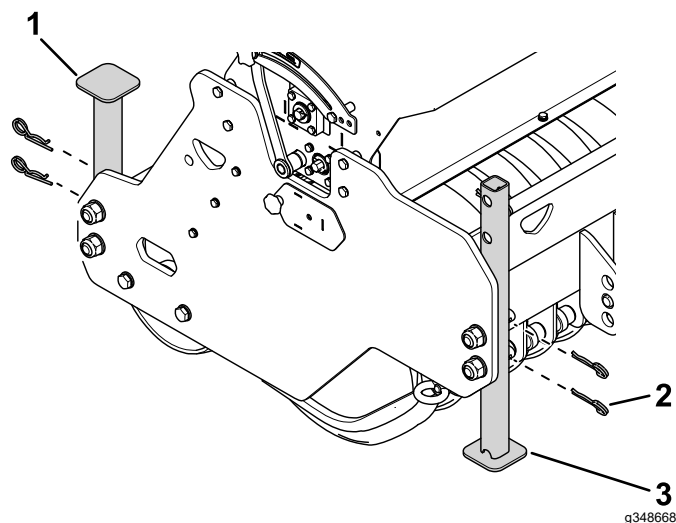

Figure 9
6. Remove the cotter pins from the stands use them to secure the stands in the raised position as shown in Figure 9.